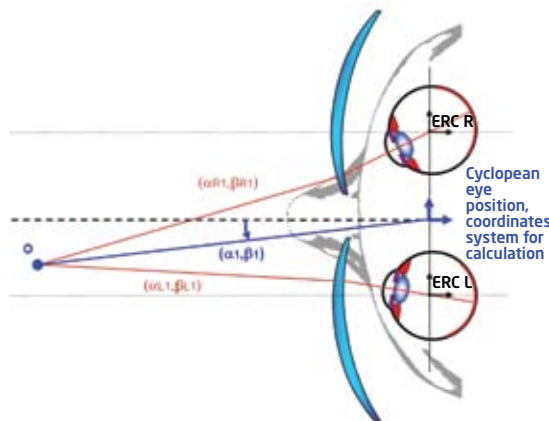

Figure 4 Cyclopean coordinate system
- A cyclopean coordinate system (Figure 4); for each gaze direction (α_1, β_1) of the cyclopean eye, the 3D environment provides a given object point O. From object point O, ray tracing provides the right eye gaze direction $(\alpha_{R1}, \beta_{R1})$ as well as the left eye gaze direction $(\alpha_{L1}, \beta_{L1})$. Right and left gaze directions cross zones of respectively right and left lenses called 'corresponding zones'.